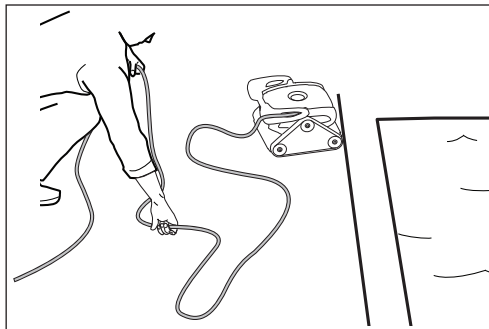

Figure 14. Untangle the Floating Cable
2. Remove the cleaner from the pool and untangle all kinks and coils in the floating cable starting at the cleaner head (Figure 14).